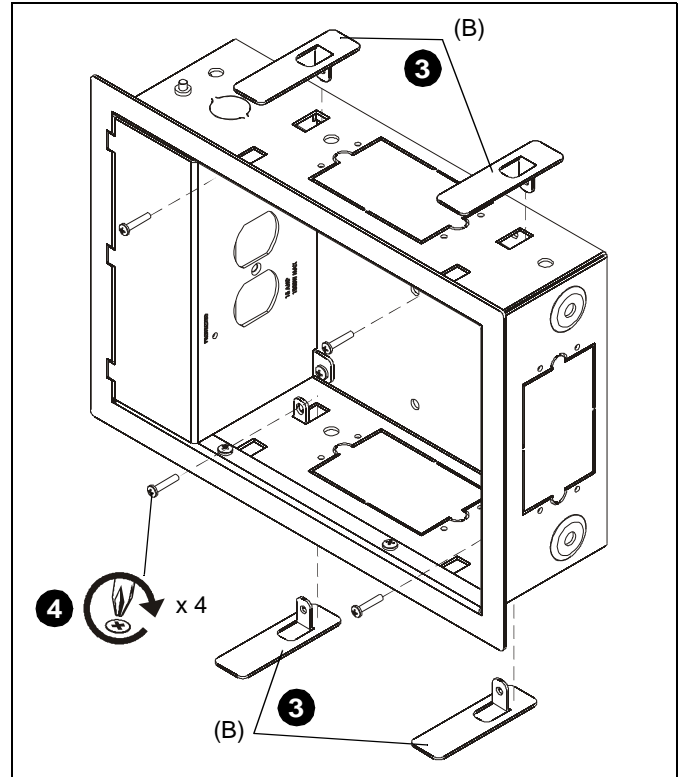

Figure 4
3. Add four hole covers (B) to PAC521N. (See Figure 4)
4. Using the Phillips head screws removed in Step 1, tighten hole covers (B) in place. (See Figure 4)